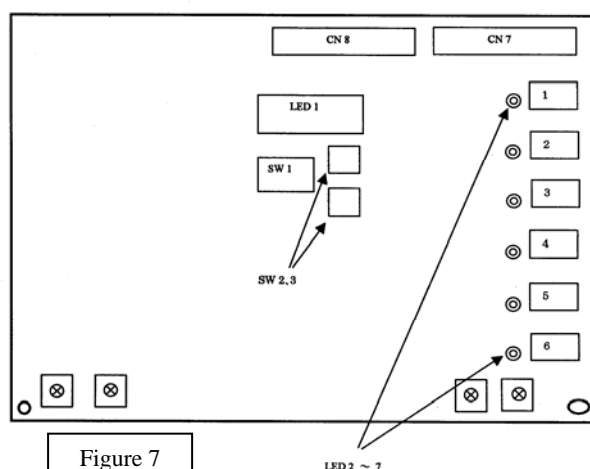

Figure 7
3. Figure 7 shows the schematic drawing of main communication PCB.